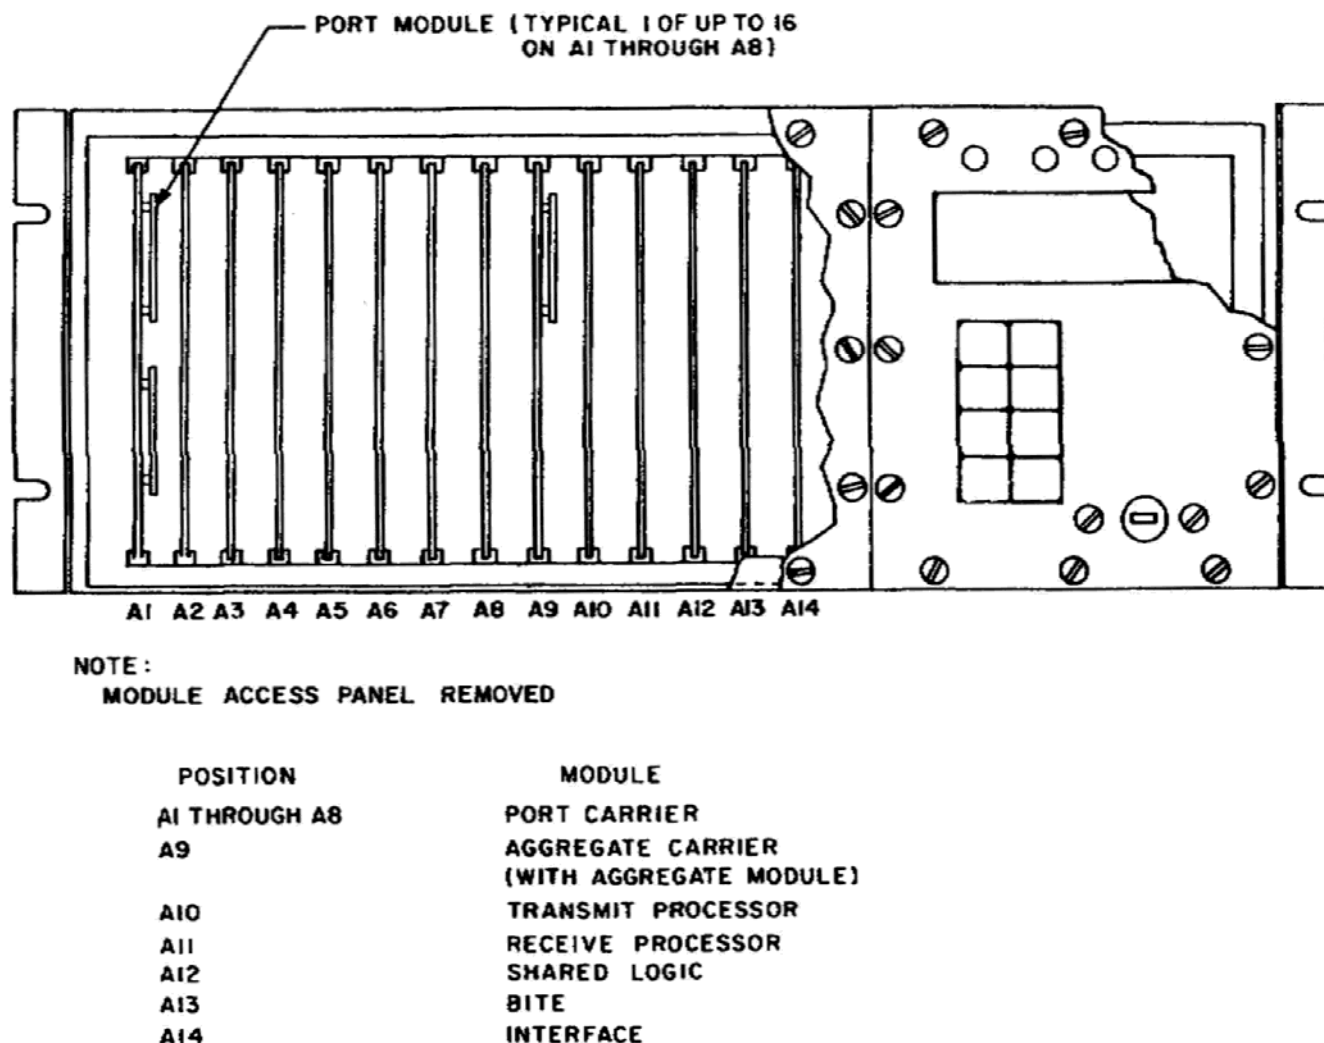

Figure 2. Common Equipment Modules.
c. The AN/FCC-100(V) consists of multiplexer-demultiplexer, time-division, low-speed TD-1349(P) /FCC-100(V) and the modules and chassis presented in (1) through (8) and (11).
(1) Transmit processor module. This module contains the logic circuitry and memory devices which are required to send user data to the aggregate. The module also performs some diagnostic checks (see figure 2).
(2) Receive processor module. This module contains the logic circuitry and memory devices which are required to accept user data from the aggregate. The module also performs most of the diagnostic checks associated with built-in testing (see figure 2).
(3) Shared logic module. This module contains the circuitry which is required by both processor modules. The memory circuits that contain both active and offline configurations are located on this module (see figure 2).
(4) BITE modules. This module contains comparator circuits and LEDs which are used to monitor specific voltages and clock signals. A test probe can plug into this module. The probe is used to monitor test points on the other modules (see figure 2).
(5) Port carrier module. This module contains the circuitry common to receiving data from, and sending data to, user terminals. Each carrier can support up to two port modules (see figure 2). The port carrier modules connect serial format user terminals to the parallel format bus structure used for multiplexing and demultiplexing within the AN/FCC-100(V). Each port carrier is used in conjunction with port modules which plug into connectors on the port carrier module circuit board. Transmit signals from the user terminal enter the port carrier module from the backplane. The signals pass through circuits on the carrier module, go to the appropriate port module, return to the carrier, and are sent to other multiplexer modules through the backplane. Receive signals from the demultiplexer enter the port carrier module from the
(6) Aggregate carrier module. This module contains the circuitry required to send data to, and receive data from, the aggregate. This module requires a specific aggregate module to provide the drive circuits (see figure 2). The aggregate carrier module provides parallel to serial and serial to parallel data conversion. This module is also the source of the baud rate clock signals required for data transmission. The aggregate carrier module is used in conjunction with an aggregate module which plugs into a connector (J1) mounted on the carrier module. The aggregate carrier module connects to the other AN/FCC-100(V) modules through the backplane wiring and to the user aggregate channel through backplane connector J17. Two types of aggregate diphase and NRZ are available. One of these types must be installed into the aggregate carrier module.
(7) Interface module. This module permits communication between the user and the AN/FCC-100(V). The module converts operator inputs into commands which configure and control the AN/FCC-100(V). It also converts signals from the AN/FCC-100(V) into output displays (see figure 2).
(8) Front panel. This module is the physical and electrical link between the operator/organization maintenance personnel and the interface module (see figure 2).
(9) Power Supply Group OP-143/FCC-100(V). This group consists of an AC power supply, a fan assembly, and a line filter. The AC supply provides the necessary DC voltage levels from either a 115 or 230 volts AC source. The fan provides air circulation through the unit. The line filter provides necessary power line isolation.
(10) Power Supply Group OP-144/FCC-100(V). This group consists of a DC power supply, a fan assembly, and a line filter. The DC supply provides the necessary DC voltages from a -48 volt DC source. The fan provides air circulation through the unit. The line filter provides necessary power line isolation.
(11) Chassis. The chassis provides harness wiring interconnections for the modules and power supply group. The chassis also provides the input/output connection to the user's system.
(12) Detailed theory of operation.